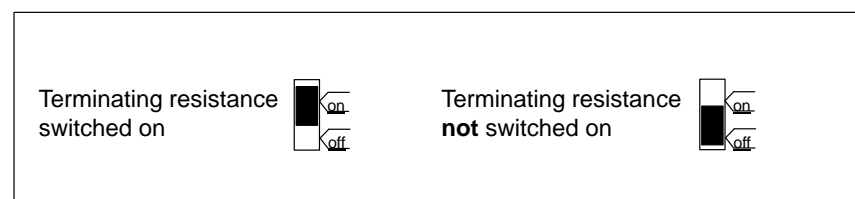

Figure 3-13 Bus Connectors (6ES7 ...): Terminating Resistance Switched On and Not Switched On
3. If the bus connector (Order No. 6ES7 ...) is at the start or end of a segment, you must switch on the terminating resistance (switch position "ON") (see Figure 3-13).